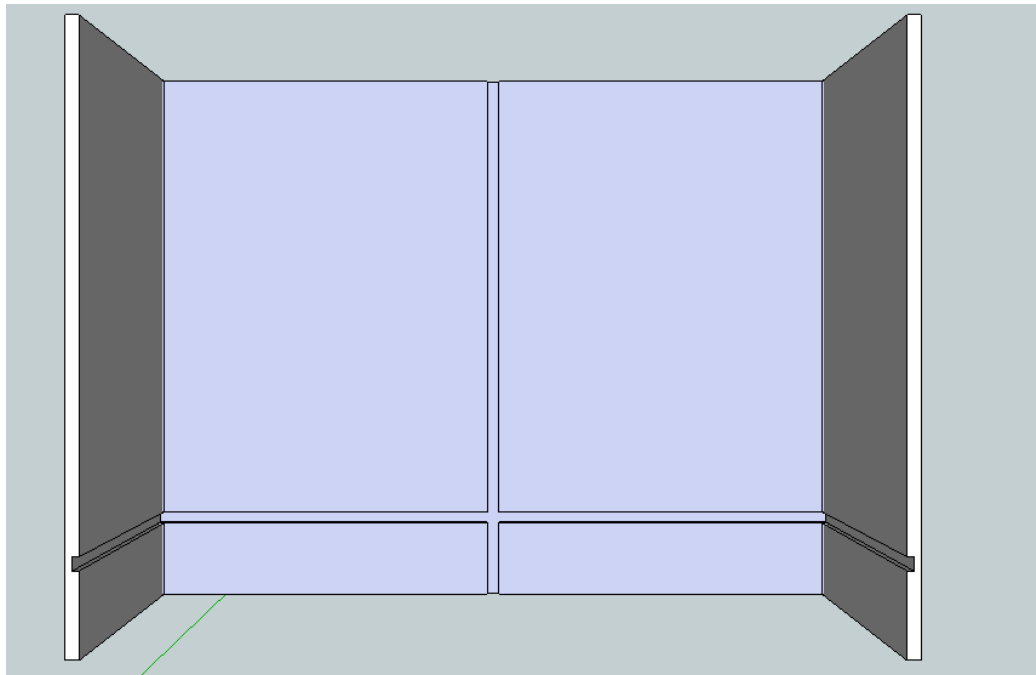

Figure 16: Bottom Cabinet Sides and Back Assembled
1. Apply a liberal amount of wood glue into the long groove along one of the Bottom Cabinet Sides. Insert the Bottom Cabinet Back into that groove so that the bottom grooves align. These two pieces can be held together for easier handling by toe-nailing a couple of short brand nails into the joint area or from the outside of the side piece into the groove. Repeat this glue and assembly process with the other Bottom Cabinet Side piece as shown in Figure 16. Any excess glue should be wiped off with a moist rag.